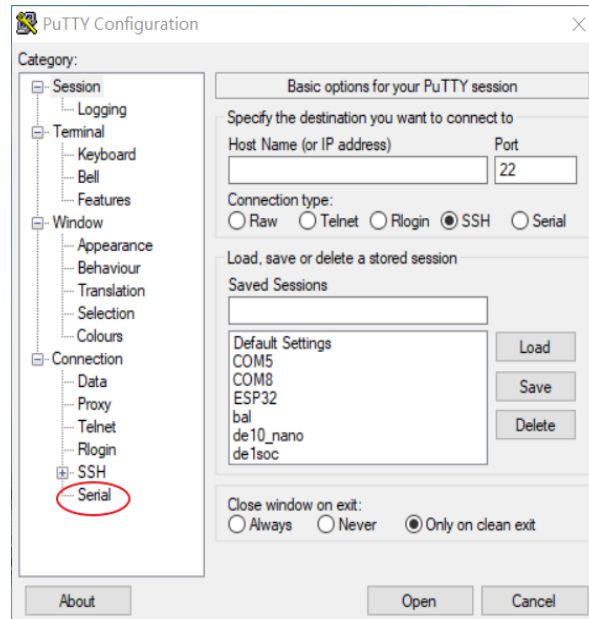

Figure 5-11 Click serial
- Open the putty software, type in the parameter as shown in **Figure 5-11**, and click open button to open the terminal. (Here is a link for you to download the putty terminal <http://the.earth.li/~sgtatham/putty/latest/x86/putty.exe>)